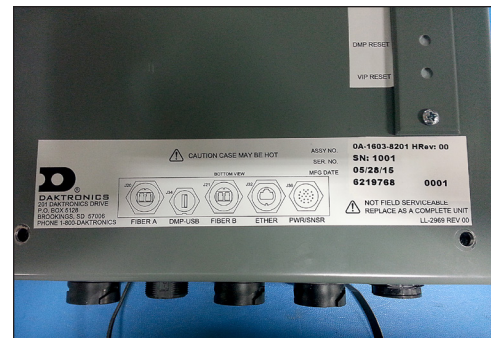

Figure 33: DMP-8065 Jacks
The Digital Media Processor (DMP) receives the content from the Internet, sends it to the PLRs within the display and to the modules. All of the connections for the DMP are located on the bottom of the unit. The DMP is a field replaceable unit. Refer to **Figure 33**.
2. Disconnect the duplex fiber to PLR port A from the DMP-8065. Refer to **Figure 33**.